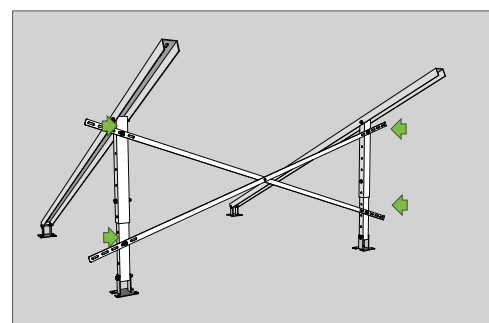

Fig 3
- Attach double back brace to rear legs using the tek screws provided. See Fig 3